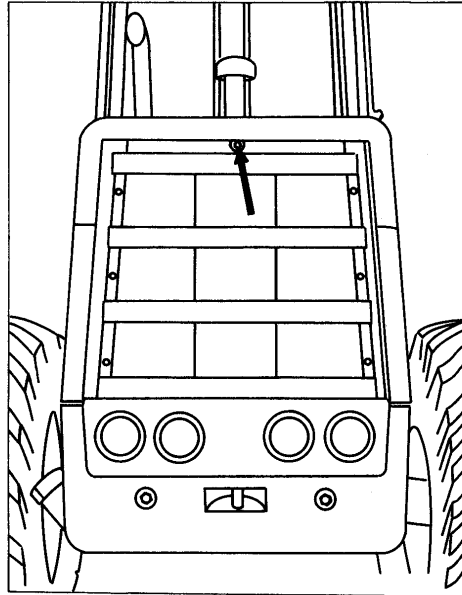

Fig. 5.10. Coolant Level Sight Gauge
1. Check the coolant level through the sight gauge (Fig. 5.10) in the radiator top tank. The coolant should be visible in the sight gauge and the coolant level should be midway of the sight gauge (in CE version the access to the gauge is gained after lifting the radiator grill, 1, Fig. 5.48A).
Remove all bugs and dirt from the radiator core, using air or water under pressure. Direct the flow through the core, opposite to the normal direction of air flow (from outside the coolant level sight gauge, Fig. 5.10). The following should be cleaned: